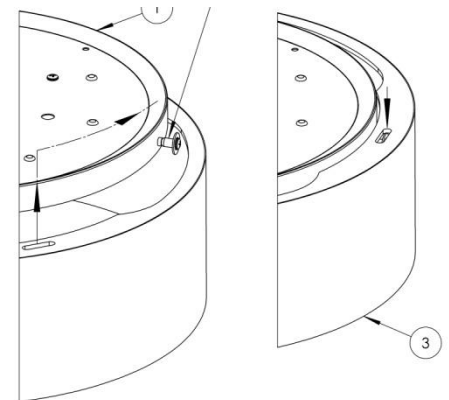

Figure 2
- A. Secure ceiling pan, (1) to the junction box with two screws (2) (supplied).
- A. Raise the shade, (3) up to the ceiling through the larger part of the opening in the top of the shade, past 3 shade mounting spacers in the pan (1) per Figure 2.